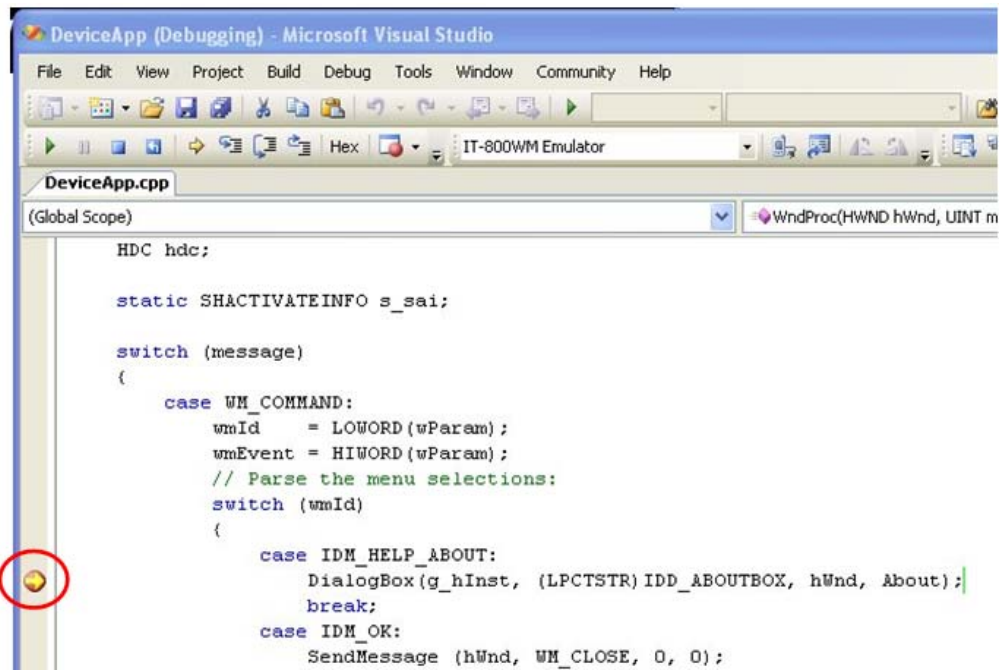

Figure 7.20
2. Similar to ordinary debugging operations with an actual IT-9000, the **Device Emulator** allows break point setting (circled in red in Figure 7.20) in the source code and step-by-step debugging.